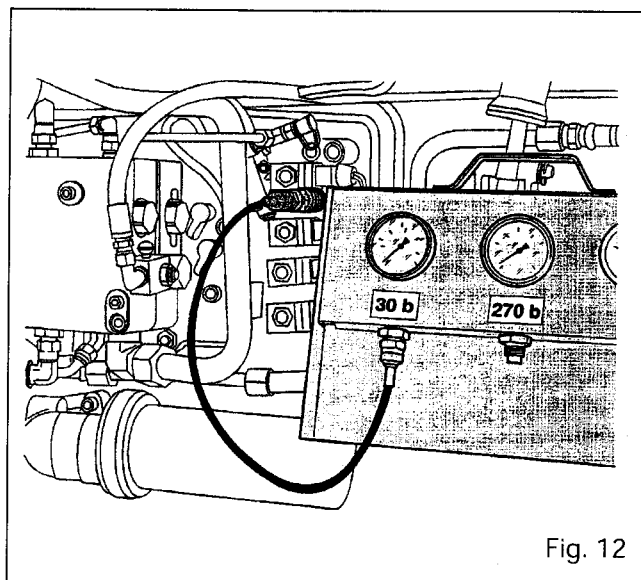

Fig. 12
- Connect a pressure gauge to the diagnostic connector (Figures 12 and 14) located to the front of the right-hand hydraulic cover to check **P16**.